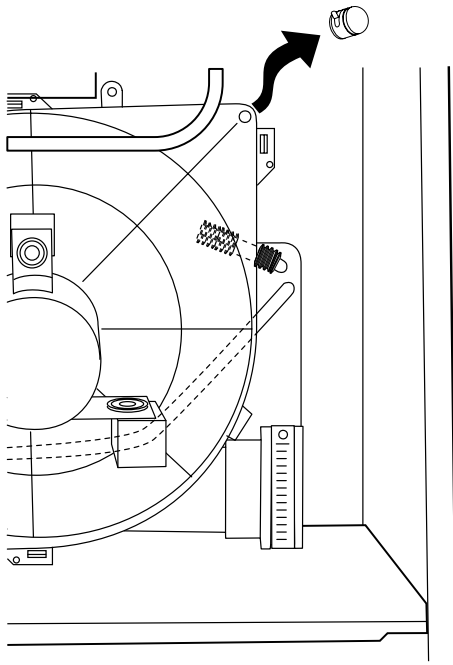

Fig. 45—Inducer Housing Drain Cap
1. Remove upper inducer housing drain connection cap. (See Fig. 45.)